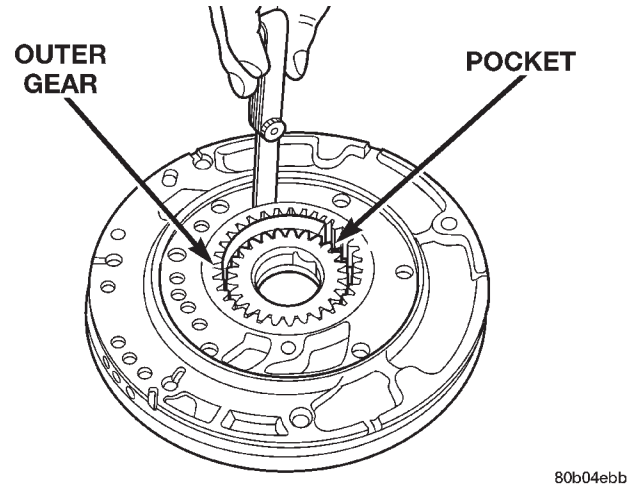

Fig. 100 Measure Outer Gear to Pocket
- (3) Remove the pump gears and check for wear and damage.
- (4) Install the gears and check clearances.
- (5) Measure the clearance between the outer gear and the pump pocket (Fig. 100). Clearance should be 0.045-0.141mm (0.0018-0.0056 in.)
- (6) Position an appropriate piece of Plastigage across both pump gears.
- (7) Align the Plastigage to a flat area on the reaction shaft support housing.
- (8) Install the reaction shaft to the pump housing. Tighten the bolts to 27 N.M (20 ft. lbs.)
- (9) Remove bolts and carefully separate the housings. Measure the Plastigage following the instructions supplied.
- (10) Clearance between outer gear side and the reaction shaft support should be 0.020-0.046mm (0.008-0.0018 in.). Clearance between inner gear side and the reaction shaft support should be 0.020-0.046mm (0.008-0.0018 in.).